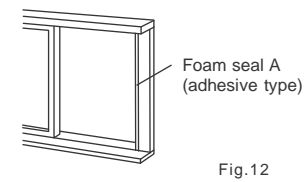

Fig. 12
1. Cut the foam seal(adhesive type) to the proper length and attach it to the window frame, Fig.12.